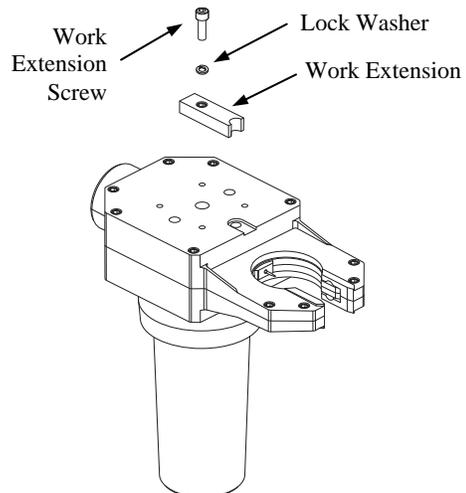

Figure 24 Removing the Work Extension
3. Remove the work extension screw with lock washer, and the work extension. Inspect the work extension for pitting, wear, or damage. See Figure 24.